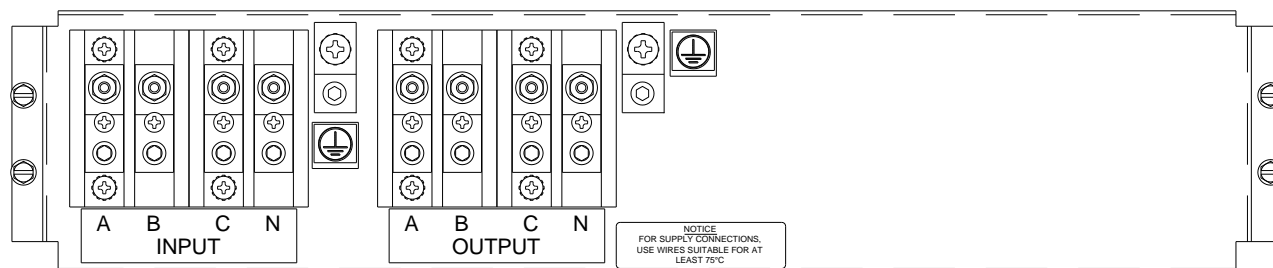

Figure 7-Terminal Blocks
2. Connect the input wires to the proper terminals shown in Figure 7. Insure proper phase rotation. Input neutral is not required if the UPS is equipped with an optional input isolation transformer.
3. Connect the output wires to the proper terminals shown in Figure 7.